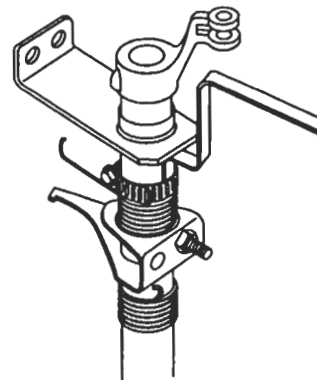

Figure 4. Secure Indexing Bracket to Control Tube
3. Secure the indexing bracket to the control tube with a hose clamp (Figure 4.)